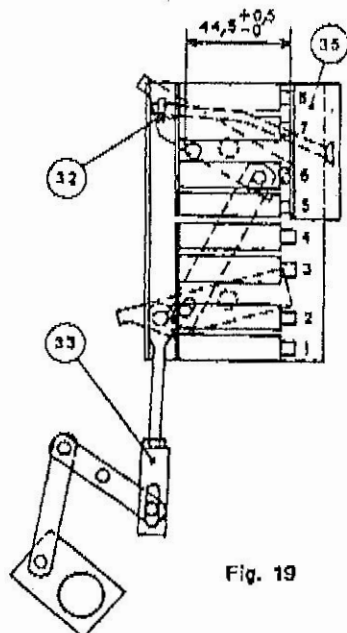

Fig. 19
5. Auxiliary Contact Block Support Adjustment (Fig. 19).
With contact blocks removed, adjust nut (32) until distance shown in Fig. 19 is 44.5 ± 0.5 mm (1.753 ± 0.020 inch).